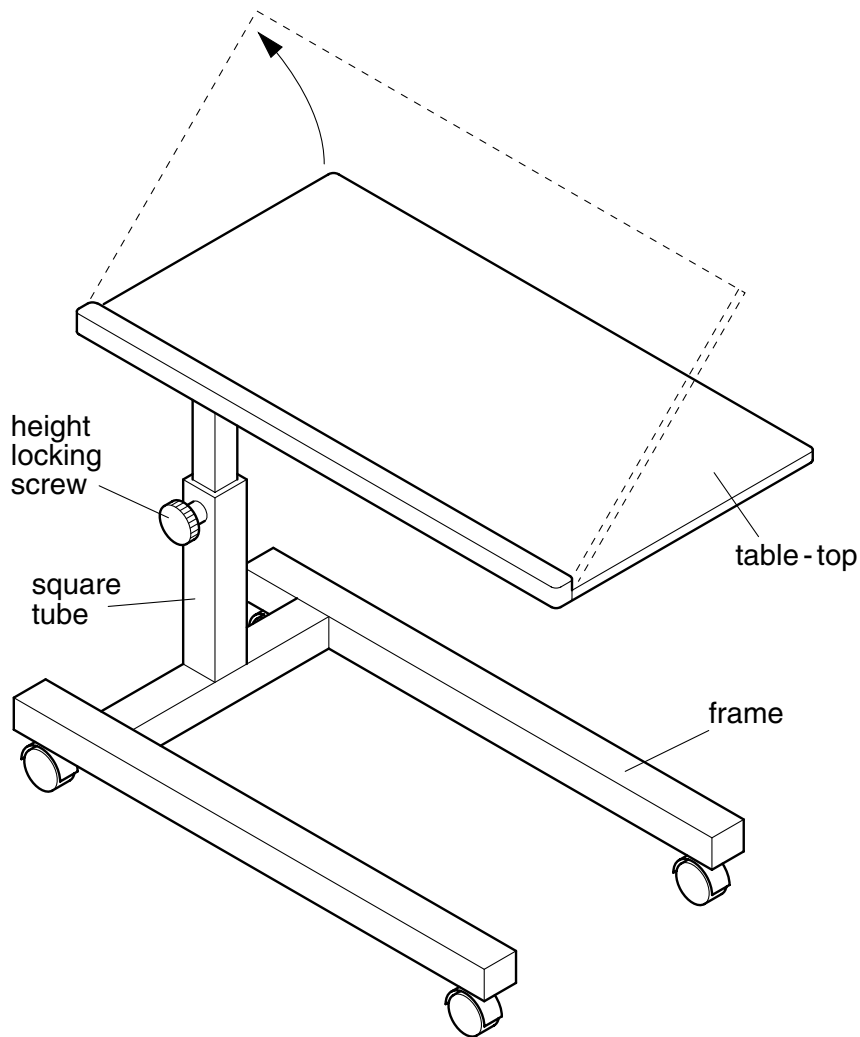

Fig. 2
- 8 An outline design for an adjustable table to be used by hospital patients is shown in Fig. 2.